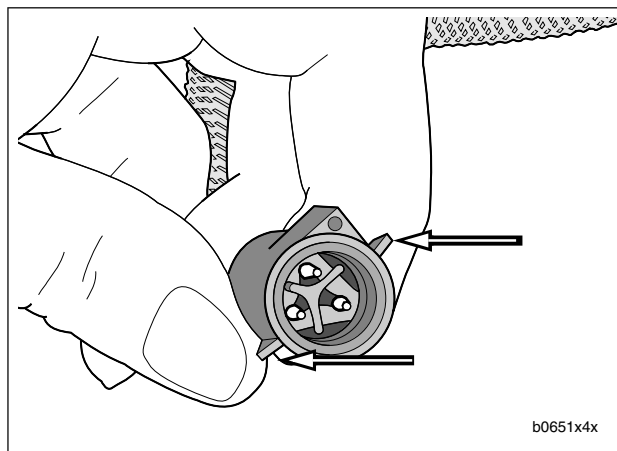

Figure 4-81. Tabs on TP Sensor Connector [88A]
4. See Figure 4-81. Attach throttle position sensor connector [88]. Slots on female connector [88B] must fully engage tabs on male connector housing [88A].